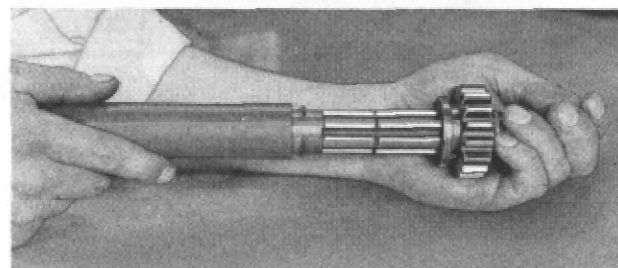

Figure 10
Install countershaft thrust washer retainer (42) on countershaft using tool J-781 (Fig. 10).
Install countershaft intermediate gear retainer (39) on countershaft using tool J-781 (Fig. 10).